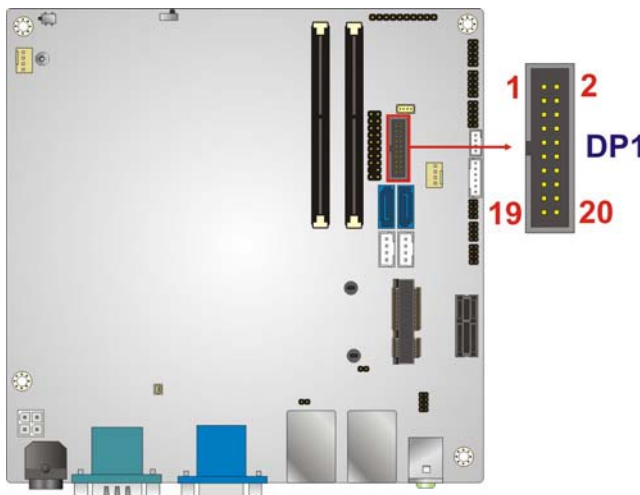

Figure 3-8: Display Port Connector Location
- CN Location:** See **Figure 3-8**